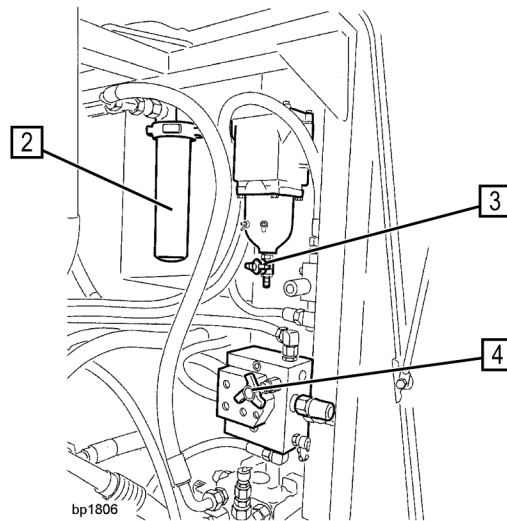

Fig. 84 Maintenance flaps on right in direction of travel
- Set the desired concrete pump delivery volume (stroke count) using the handwheel (4) (**Fig. 84**).